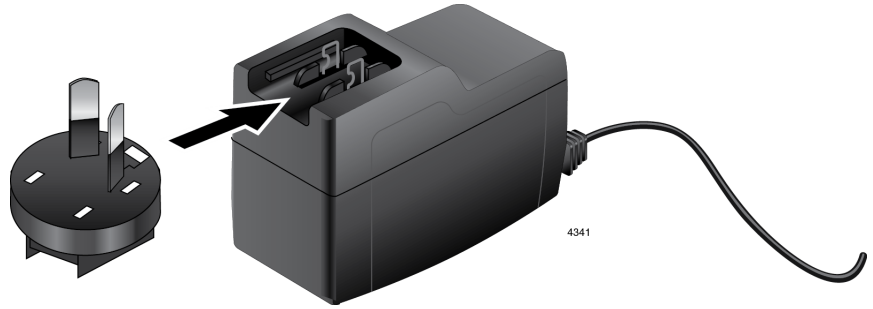

Figure 17. Attaching the AC Plug to the AC Adapter
4. Attach the AC plug that you selected to the AC adapter in shown in Figure 17 on page 41.